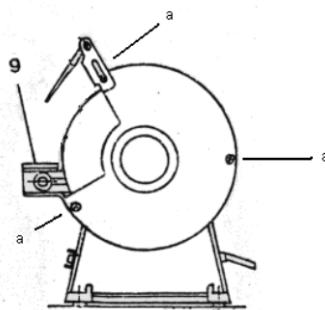

fig. 2
**EMERY GRINDING WHEELS:** For sharpening operations, place the item to be worked on the support (n. 9, fig. 2) and press it against the wheel, exerting a suitable but not excessive pressure. During grinding, the temperature of the item being worked will increase considerably; for this reason, we suggest dipping it in cold water from time to time.
Loosen the fixing screws found on the protective lid (letter "a" in fig. 2), then remove the lid. Use a spanner to loosen the flange's fixing nut, turning anti-clockwise and keeping the wheel blocked.